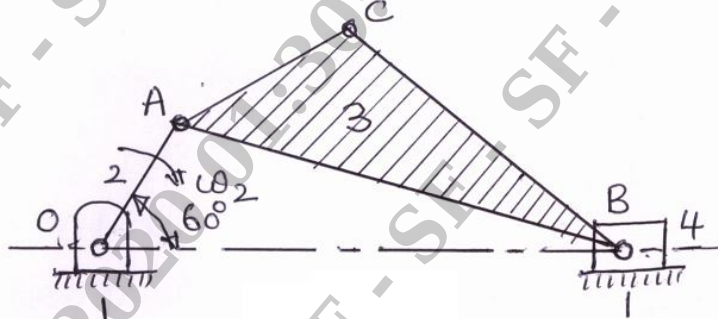

Fig. Q3
- 3 In the mechanism shown in Fig. Q3. The crank 2 rotates at 3000 rpm. Find the acceleration of point C in magnitude and direction. Also find the angular acceleration of link 3. OA = 50 mm, AB = 175 mm, AC = 75 mm and AB = 125 mm. (20 Marks)